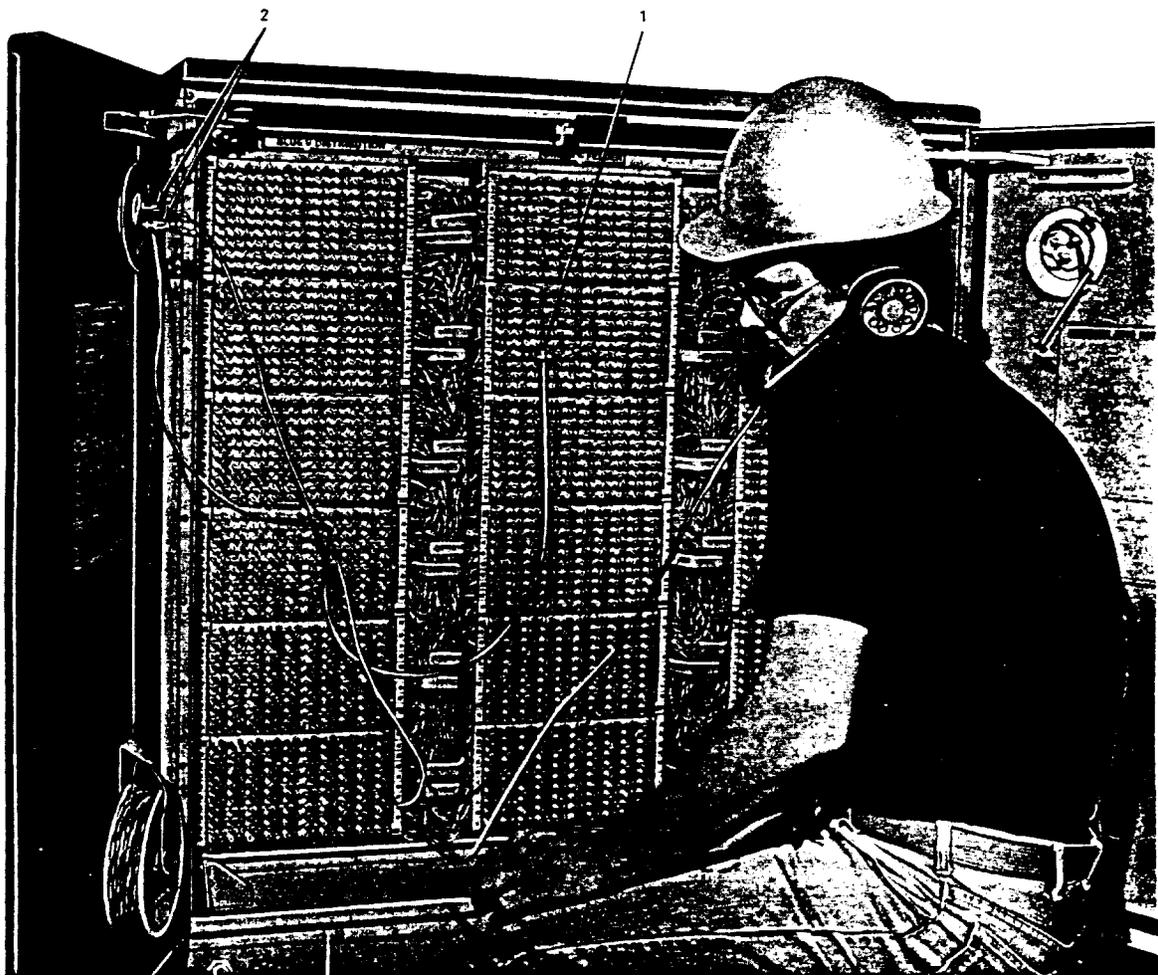

Figure 12. Verify Feeder-In Pair
4.01 Verify the feeder-in pair as follows (Figure 12):
5.01 Verify the feeder-in pair as shown in Figure 12.
8.05 To reterminate the cross-connecting wire, cut off the contact portion of the wire and reterminate as outlined in Figure 12. If wire is not long enough to leave proper amount of slack, replace wire. ***Do not piece out.***